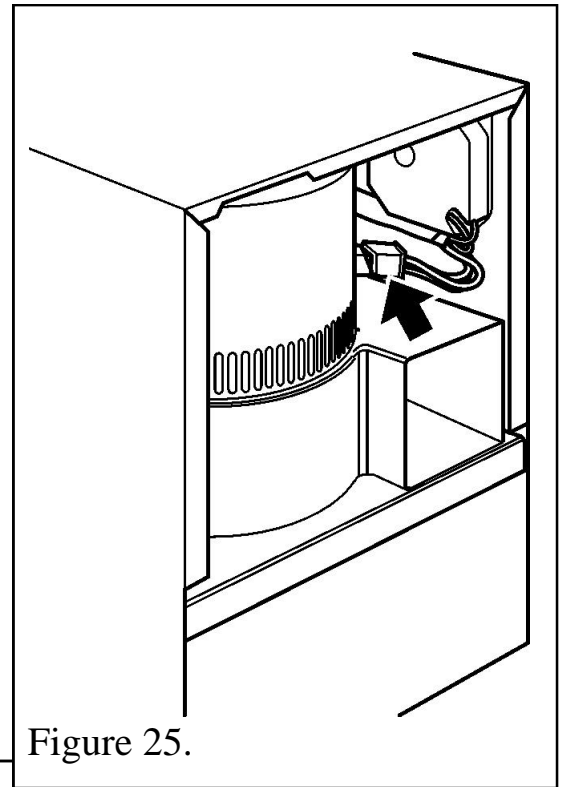

Figure 25.
4. Replace the fan unit taking care not to snag or otherwise damage the electrical fitments. Connect the cable loom to the fan unit (See figure 25)